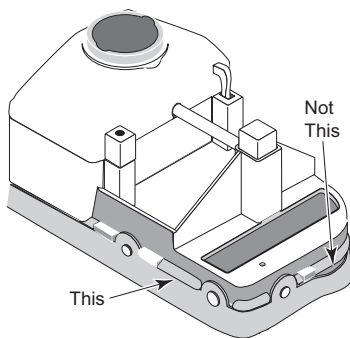

Figure 26
6. Install the rubber vacuum skirt on the cleaner with the word 'OUTSIDE' showing. Start at the large pin on the back of the cleaner head (**see Figure 25**) and work around the cleaner. Make sure the skirt is flush against the stop strips on the cleaner head (**see Figure 26**).